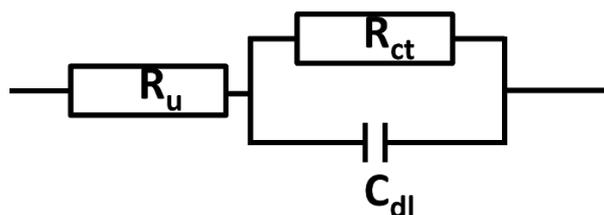
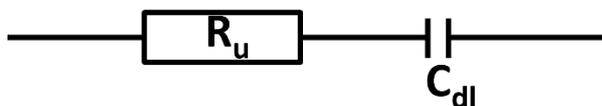

Figure 5 Randles Circuit
Figure 7 Circuit model for potential step
The current interrupt method performs an additional small measurement between two points of a measurement. The current is interrupted for a short moment. Consider the Randles circuit (see Figure 5) as representing the cell, so we have a parallel resistor and capacitor (RC) and a series resistor R. The latter is the R_u . When the current is interrupted, the potential across R_u immediately drops to 0, while the capacitor in the RC slowly decays. The drop of the potential is measured, and R_u calculated. These processes are very fast and usually require hardware with fast data sampling.
When an ac voltage is applied across the circuit in Figure 5, the impedance that depends on the frequency of the ac voltage. We are only interested in the R_u , which is frequency independent. The other resistor R_{ct} has a frequency-independent impedance too, but the capacitor C_{dl} 's impedance depends on the frequency. The higher the frequency, the lower the impedance of C_{dl} . At sufficiently high frequencies all current will flow through R_u and C_{dl} , but C_{dl} contribution is negligible, so you only see R_u in the spectrum. As higher frequencies may have stray capacitance effect (i.e., unwanted capacitance from cables or other metal surfaces), it is advisable to measure a full spectrum and acquire the R_u by equivalent circuit fitting. In the following video tutorial we explain how to perform equivalent circuit fitting:
that the R_{ct} can be removed from the Randle circuit (Figure 5). This leads to an even simpler circuit as shown in Figure 7.
When you want to perform this technique, you need to consider multiple parameters. You need to avoid a Faraday reaction current, otherwise you have an additional current pathway across R_{ct} (see Figure 5). A long time constant τ will lead to inaccuracies because the charging is happening too fast. You need software that allows you to perform linear regression.